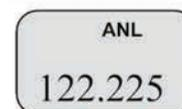

Figure 7
- Display indicates that the ANL function is enabled by displaying " ANL" icon in the upper part of the LCD. (See Figure 7)